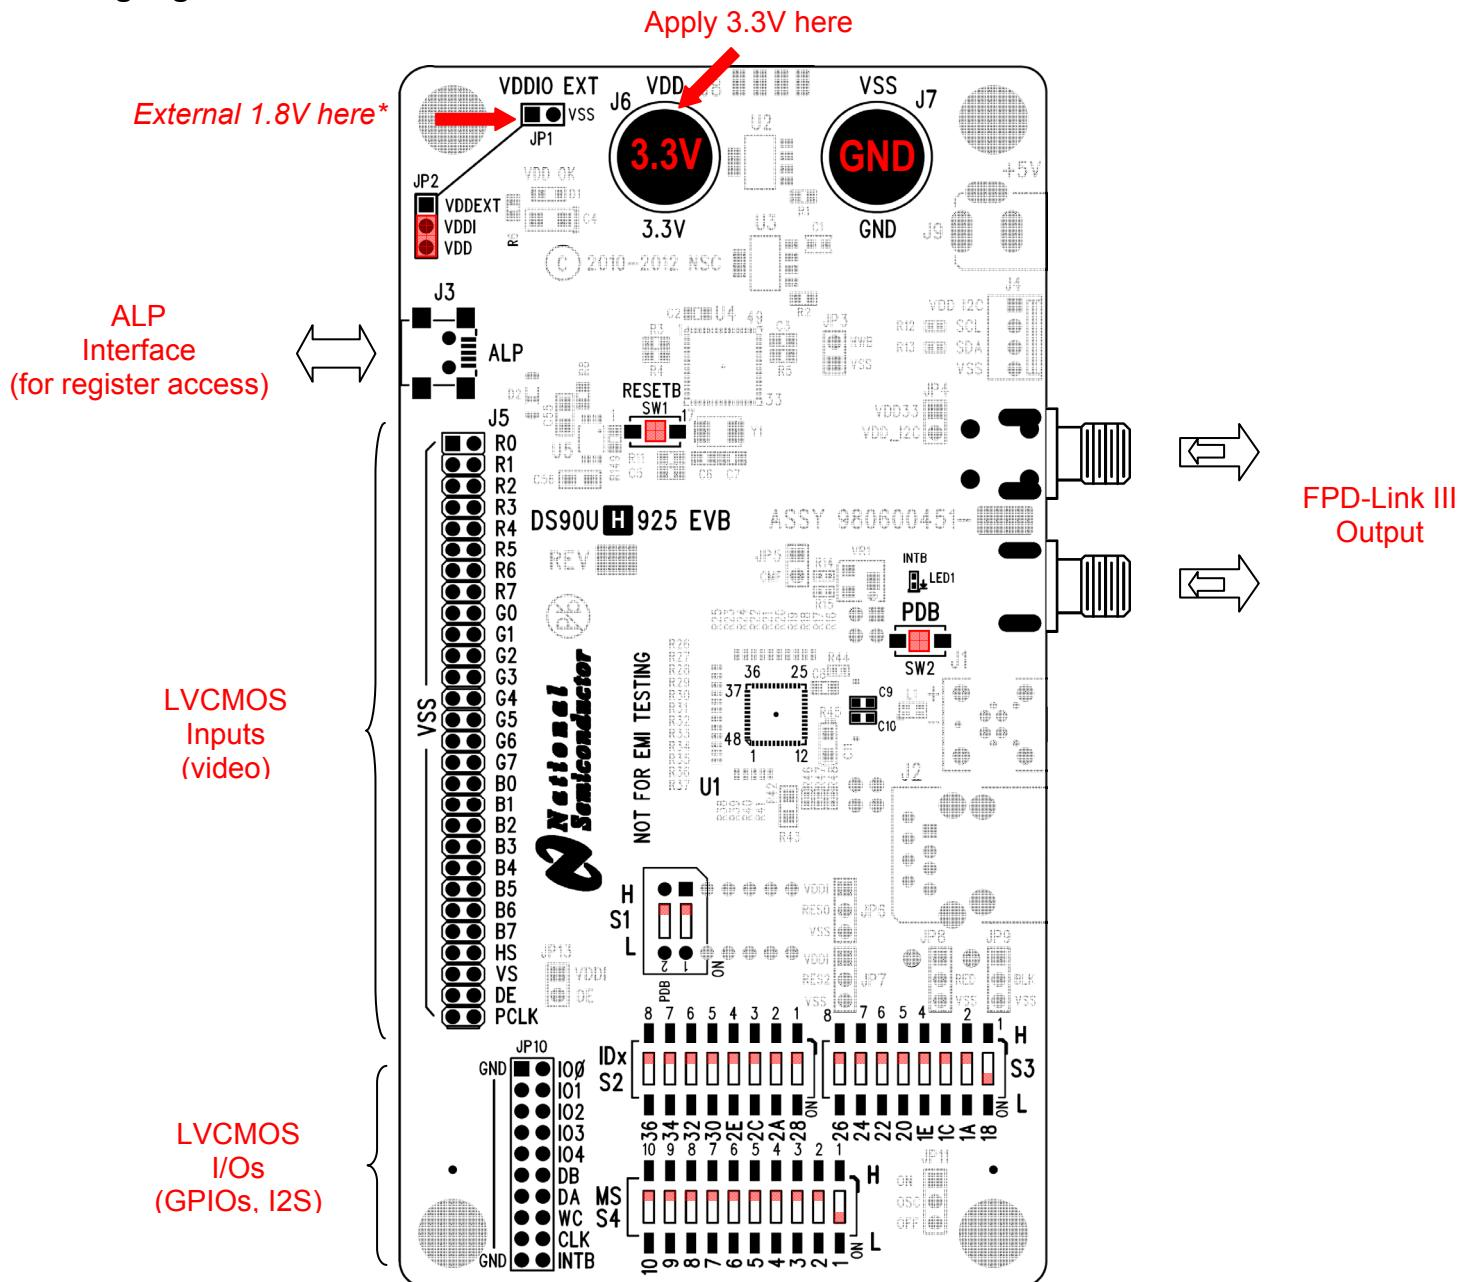

Figure 1: DS90UH925Q EVB
| Figure 1: DS90UH925Q EVB..... | 2 |
Make sure S1, S2, S3, S4, and JP2 are configured as shown in Figure 1.
- 5) Go back to figure 1 and double check factory settings.